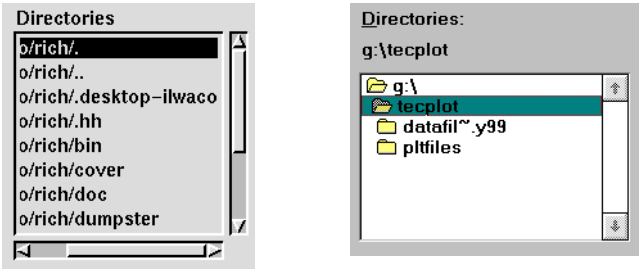

Figure 2-16. Scrolled lists in Motif (left) and Windows (right).
- **Scrolled lists:** Scrolled lists, also known as list boxes, are lists of options, such as file names. Sometimes scrolled lists allow multiple selections, sometimes they are restricted to one selection only. Figure 2-16 shows scrolled lists as they appear in Motif and Windows systems.